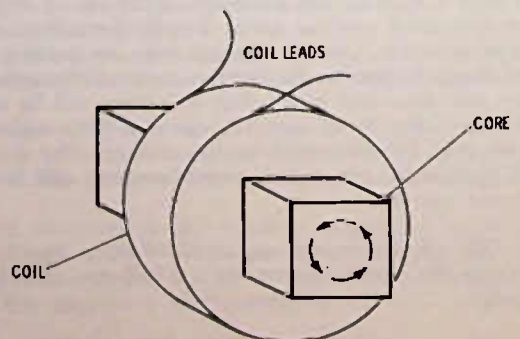

Fig. A-3.
3. B. A solid piece of iron is never recognized as a good core material because of losses in the form of eddy currents. Essentially, a solid piece of iron would look like a great number of shorted turns and this produces a severe loss. See Fig. A-3. Laminating the core (breaking it up into thin strips insulated from one another) greatly minimizes this shorted-turn effect and greatly increases the efficiency of the inductor.